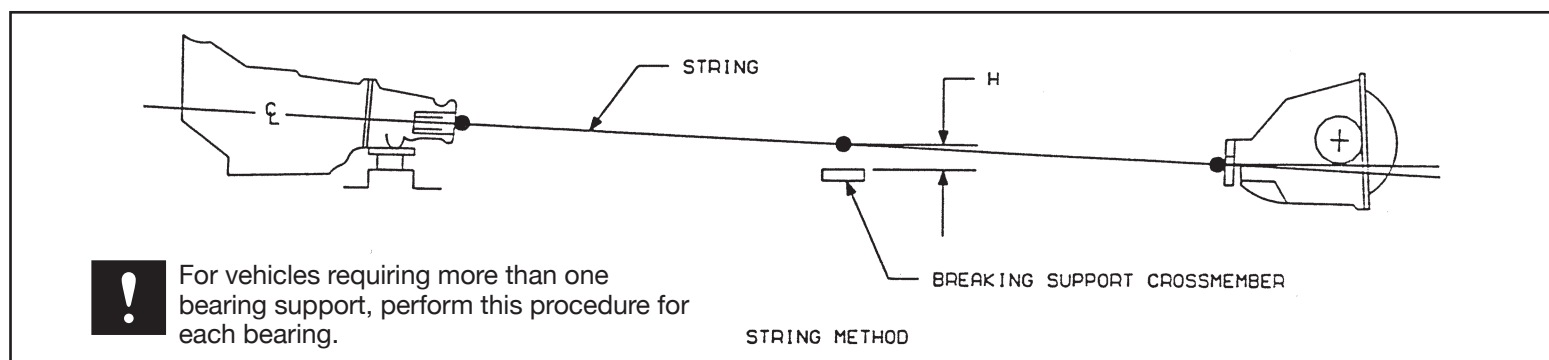

Figure 17
4. Measure the vertical distance from the center of the bearing mounting area of the crossmember to the string (dimension H, Figure 17).